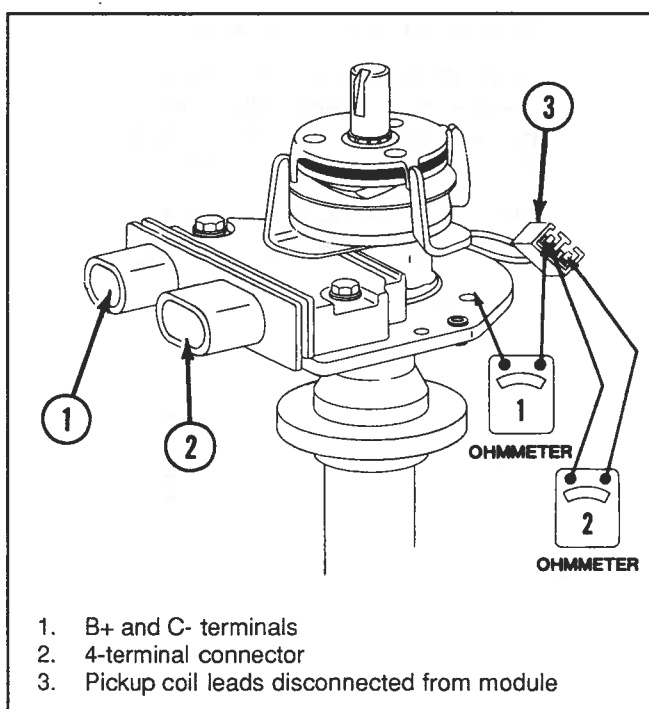

Figure 6-57. Testing Pickup Coil
3. Connect an ohmmeter between the pickup coil lead and housing (Test 1 in Figure 6-57). Reading should be infinite (no continuity). If not, replace pickup coil.
4. Connect an ohmmeter to both pickup coil leads (Test 2 in Figure 6-57). Reading should be a constant, unchanging value between 500-1500 ohms. Flex leads by hand at coil and connector to locate intermittent opens. Replace pickup coil if not within specifications.